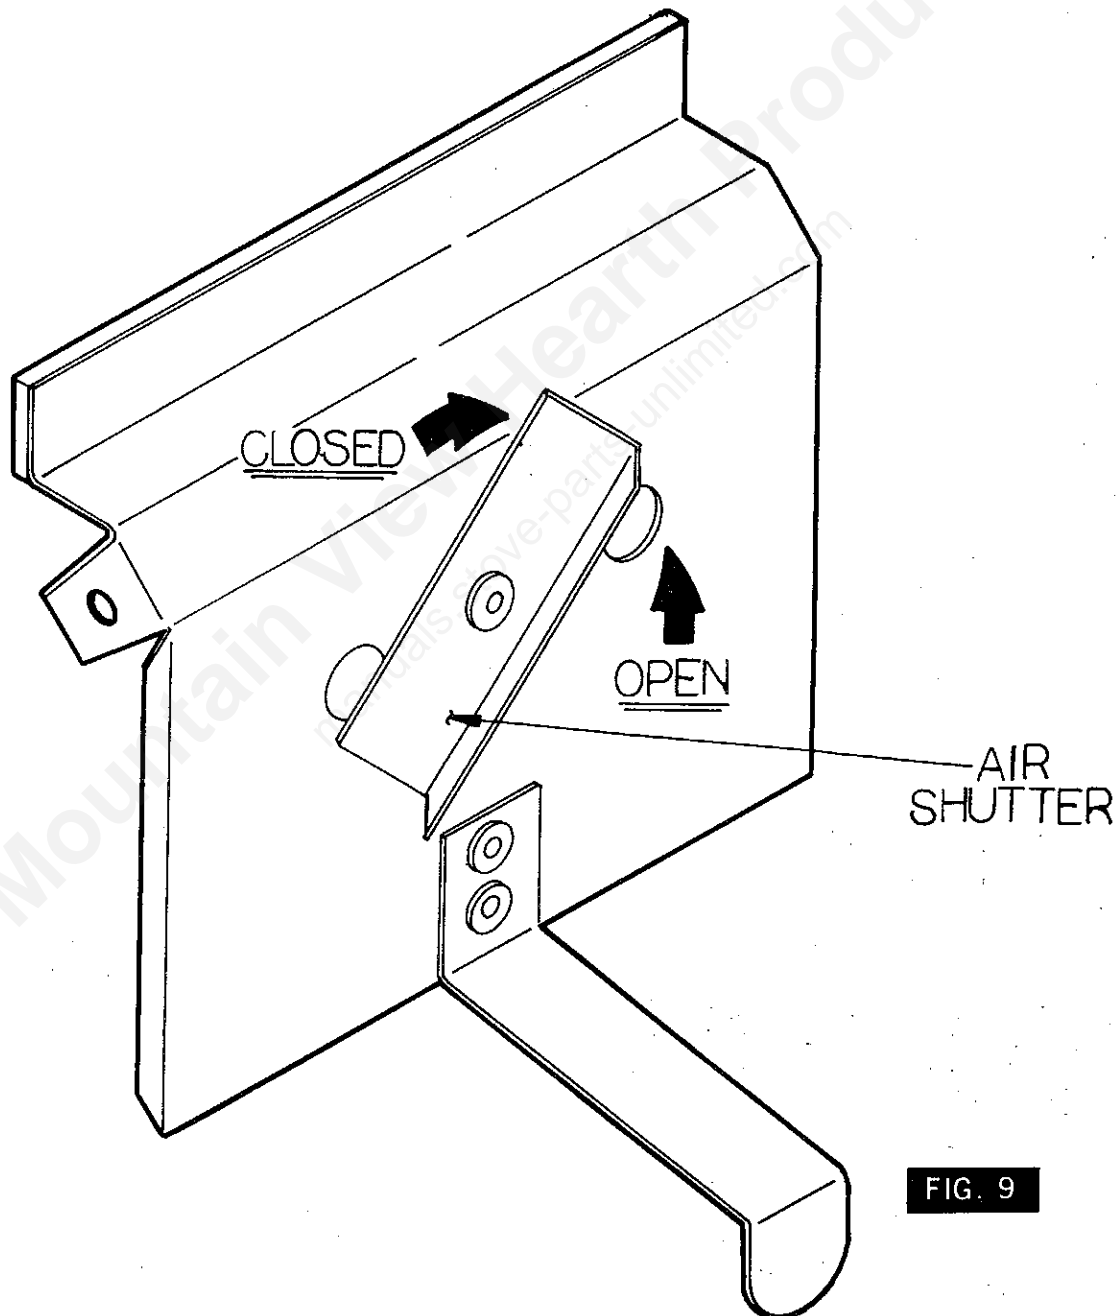

FIG. 9
- d. Adjust air shutter on feed door damper from closed to open position for better burning. (See Fig. 9)